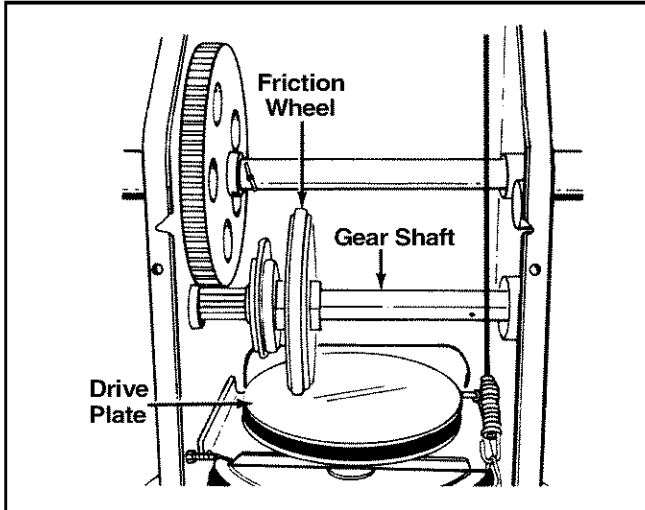

Figure 15
- With traction control engaged, the friction wheel must contact the drive plate. See Figure 15.